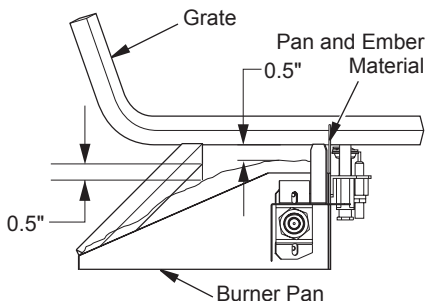

Figure 22 - Pan and Ember Material Clearances
4. Place just enough to cover entire surface and leave about a 1/2" gap under lower grate members to allow air to flow (see Figure 22).